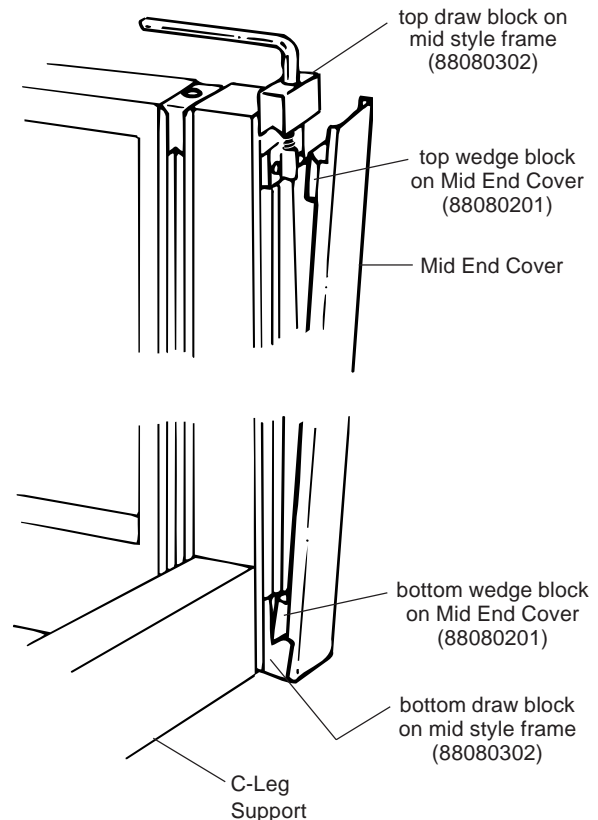

Figure 2
3. Position top wedge block of Mid End Cover under top draw block of the mid frame and tighten allen screw to 6-14 foot pounds. (Figure 2)